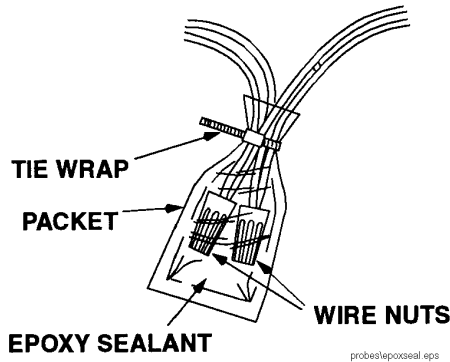

Figure 13. Epoxy Sealant Connections
4. Seal the wire nut connections at this time using the epoxy sealant packets furnished with each replacement kit. Use one packet for no more than two wire nut connections [Figure 13].